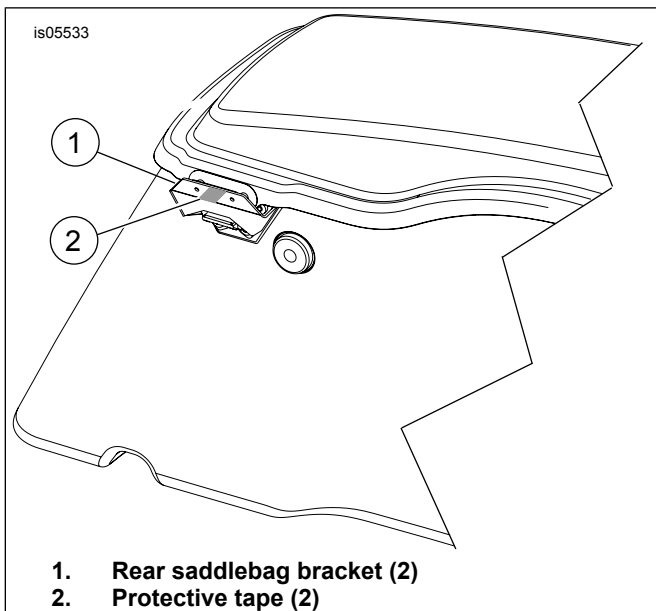

Figure 4. Apply Protective Tape
5. See Figure 4. Apply protective tape (2) to the rear saddlebag mounting bracket (1) on the saddlebag. Repeat steps for the opposite side.